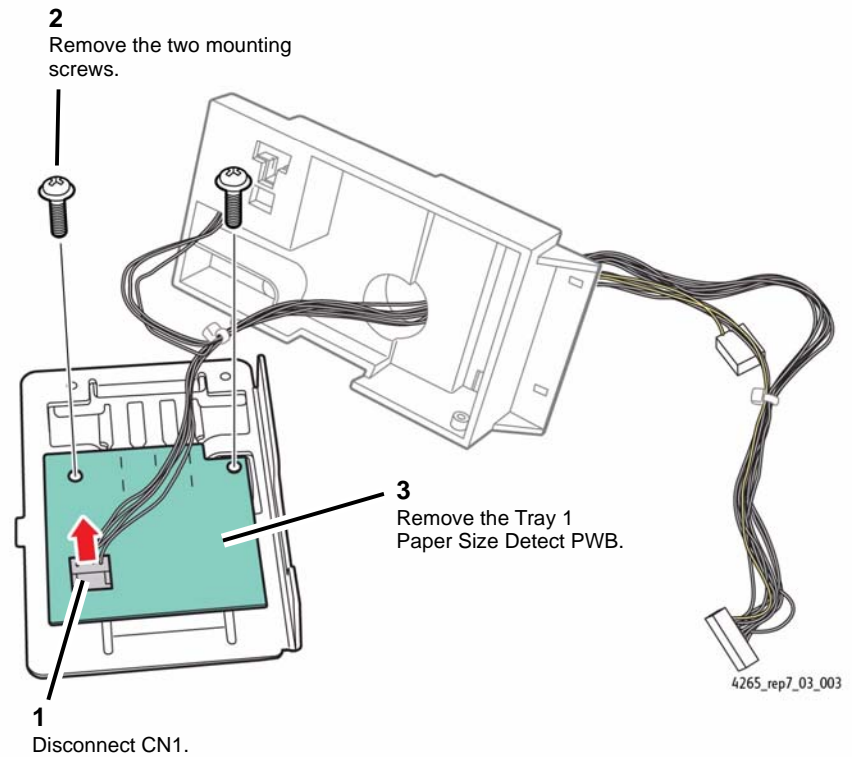

Figure 3 Removing the Tray 1 Paper Size Detect PWB
6. Remove the Tray 1 Paper Size Detect PWB from the bracket (Figure 3).